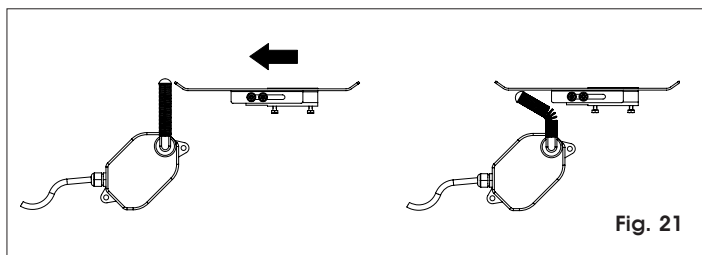

Fig. 21
The operator has a mechanical limit-stop with spring-lever, which commands gate movement to stop when a profiled steel plate, secured on the top of the rack, activates the spring until the microswitch is tripped (fig. 21).
- a) The plate must activate the limit-switch on profiled part as shown in figure 21.